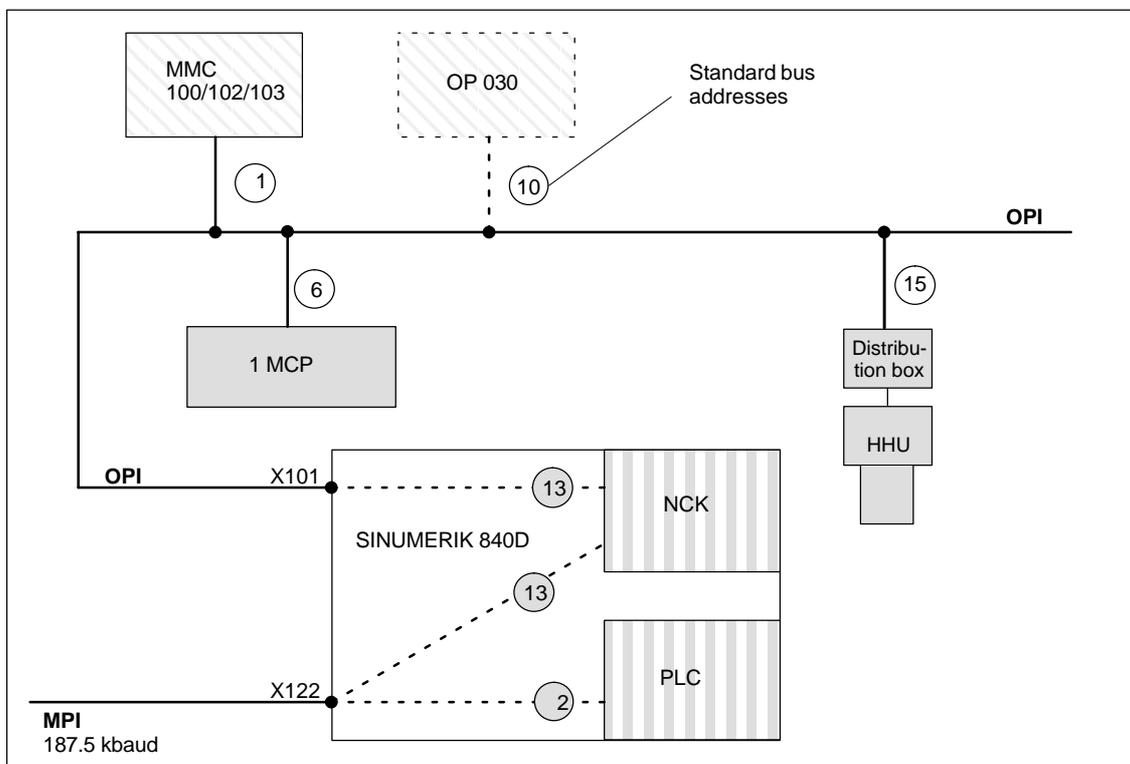

Fig. 3-6 Example of configuration of MCP and HHU via OPI
2. Enter data area for reception or transmission from Fig. 3-6.